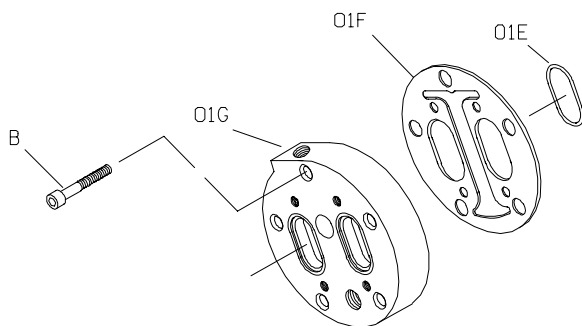

Figure E-2. Typical Head Jacket Assembly
If your pump is equipped with an optional head jacket, see Figure E-2 and remove the capscrews (B) securing the head jacket (01G), gasket (01F) and O-rings (01E) to the head assembly (01A, Figure E-1).
If your pump is equipped with an optional head jacket, see Figure E-2 and install the O-rings (01E) in the grooves in the head (Figure 1, 01A).